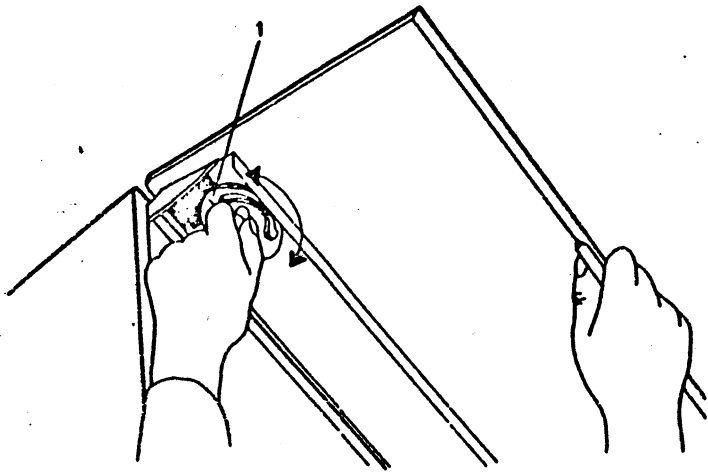
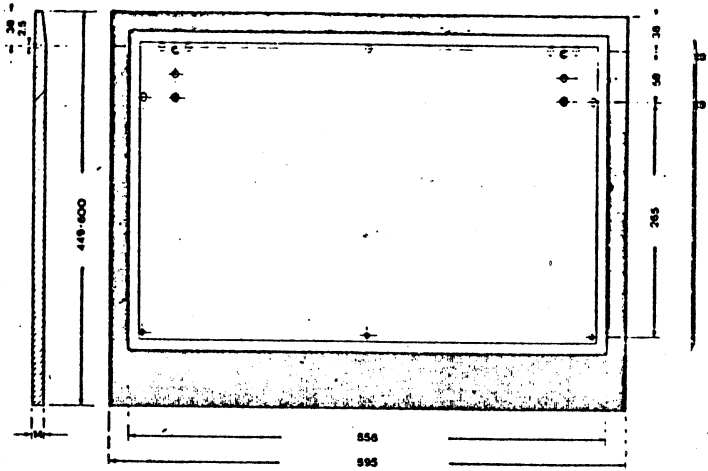

Abb. 7
Abb. 8
4. Swing out the hinge at the top of the cooker hood, insert the locking bolts of the wooden vapour guide front in the retaining holes of the hinge and secure everything by turning the enclosed bayonet catches (fig. 7/1) clockwise. Please note: Minimum thickness for all wooden fronts is 14 mm (see fig. 8).
1. Place the front side of the template enclosed on the inside of the wooden front, mark the 7 upper holes (fig. 8) and drill them 10 mm deep with a drill of 2,5 mm  $\phi$ .
3. Loosen the 2 bayonet catches (Fig. 7/1) through anticlockwise operation (hold the vapour guide tight whilst doing this).